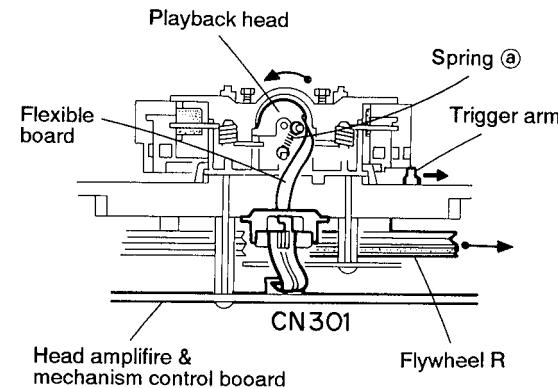
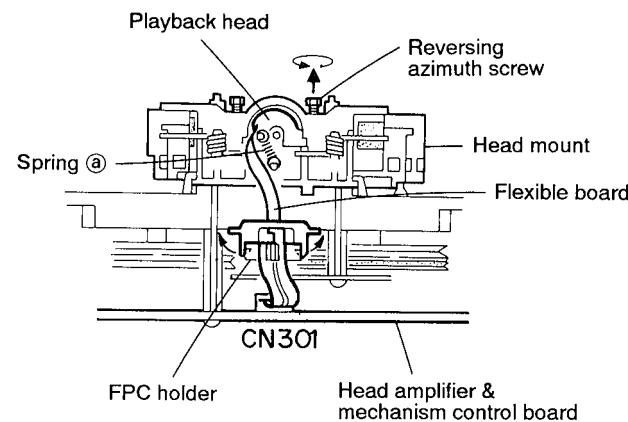

Fig.5-25 (Mechanism A side)
Fig.5-26 (Mechanism B side)
2. When the flywheel R is rotated in counterclockwise direction, the playback head will be turned in counterclockwise direction from the position in Fig. 5-25 to that in Fig. 5-26.